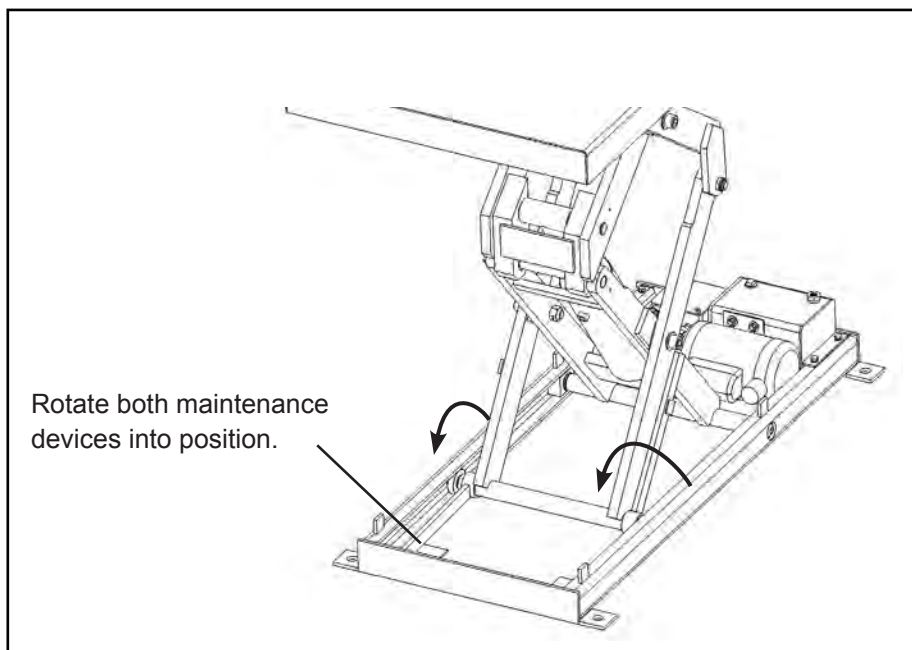

Figure 1 – Safe Servicing of Lift
3. **Move both maintenance devices** into position as shown in Fig. 1. Lower the table just a bit so the movable legs are resting against the maintenance devices. This will release the pressure in the hydraulic system. If you do not do this, pressure may remain in the hydraulic system. If this pressure is released suddenly, you may be hurt, or the lift may be damaged. Once in position the maintenance devices will keep the legs from moving, and prevent the lift from dropping suddenly.
Raise the lift and insert the maintenance devices, as shown in Figure 1. Make the permanent electrical connections as shown in Figure 15 or 16. Check the level of the hydraulic fluid. On most models, when the lift is fully elevated, the oil should be about 3/4 inch above the bottom of the tank. Use a dipstick to check the oil level, and add oil as necessary.
When adjusting the flow control, always raise the lift table and insert the maintenance devices, as shown in Figure 1. Do not try to adjust the flow control while pressing the “down” button. If you try this, the lift table may drop suddenly, and you may be hurt.
- Raise the lift table and insert the maintenance devices, as shown in Figure 1.
- Every time you want to change the adjustment again, raise the table again and insert the maintenance devices as shown in Figure 1.